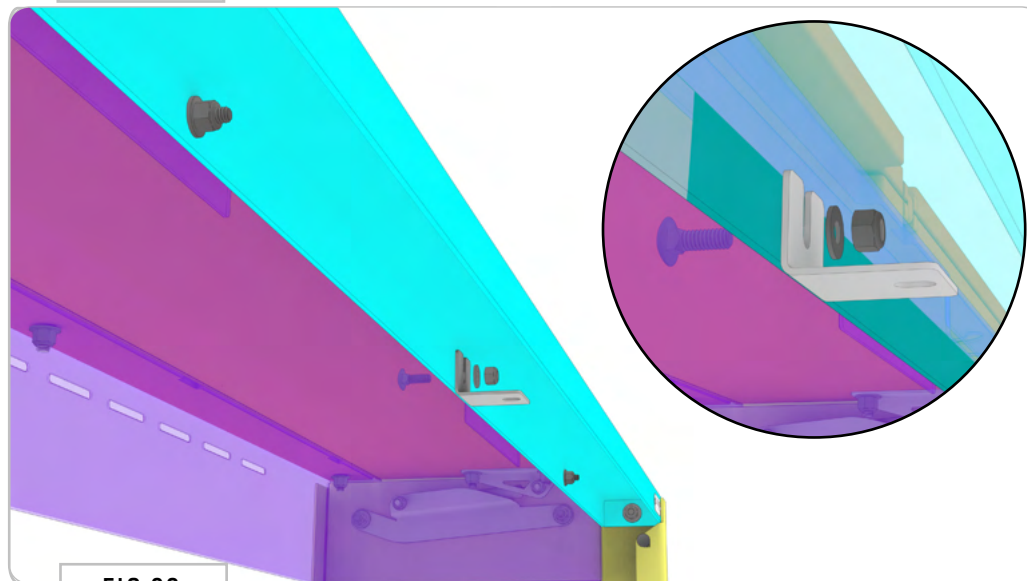

FIG 32
2.13 Install Center Bracket: Attach the Center Support Bracket to the middle of the Landing Flange using (1) 1/4-20 x 0.75 Square Neck Carriage Bolts, Flat Washers and Nylon Locknuts (FIG 32).